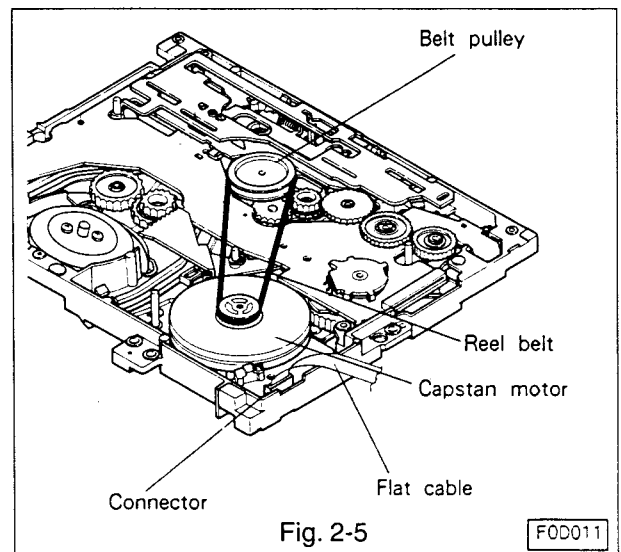

Fig. 2-5
2-5 Reel Belt(Refer to Fig. 2-5)
2-6-1 Removal(Refer to Fig. 2-5, 2-6)
- Remove the reel belt.(Refer to Fig. 2-5.)
When performing removal or installation of the capstan motor, take care that the outside of the rotor's rim is not greased.(Refer to Fig.2-5.) If greasy components are attached on the outside of the rotor's rim, wipe them off with a dry cloth because they may cause defects during special eEffects playback.
2-6-2 Installation(Refer to Fig. 2-5, 2-6.)